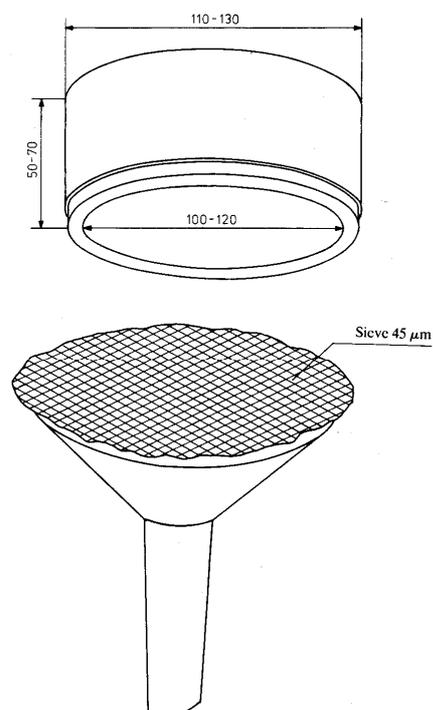

Fig. 1 An example of a suitable sieving device
4.1 *A plastic Buchner funnel* with separate upper and lower parts. The base of the upper part is cut away leaving a narrow lip at the bottom. The sieve is fastened between the upper and lower parts of the funnel by pushing the two parts together, *Fig. 1*.